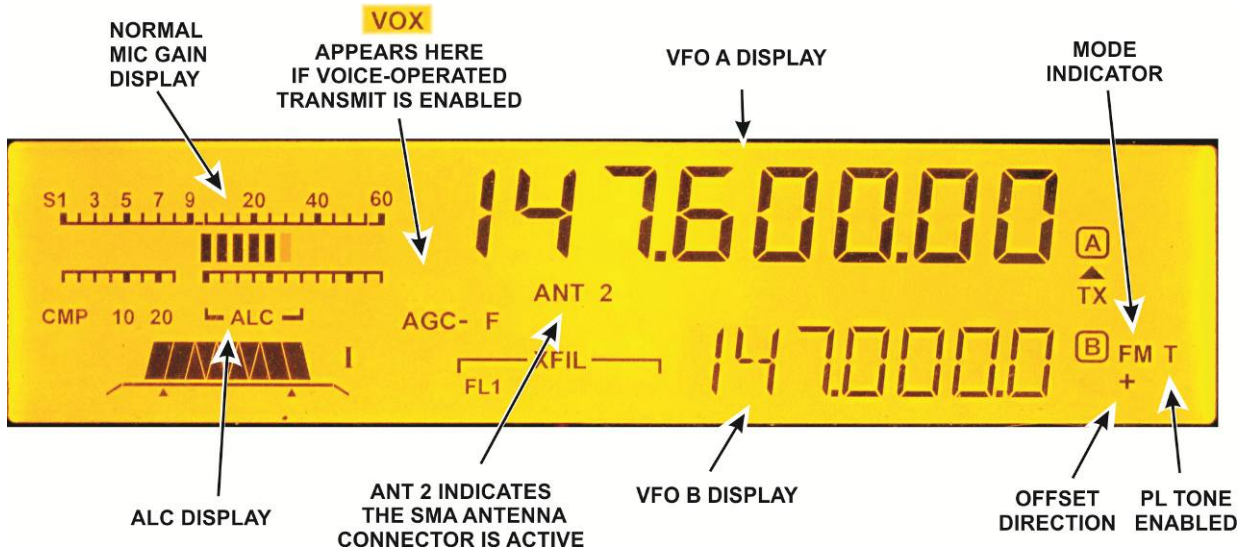

Figure 1. KX3 Display.
Connect your 2 or 4 meter antenna to the female SMA connector mounted on the KX3's right end plate. Note that when you select the 2 or 4 meter bands, ANT2 appears on the LCD indicating that the SMA connector is in use (see Figure 1 on page 5). The BNC connector is used only for the 160 through 6 meter bands.
Figure 1 shows the KX3 LCD identifying only those elements mentioned in this text. See your KX3 Owner's manual for a complete description of the display.
- **Set Microphone Gain Level:** Press the microphone PTT switch and, while speaking normally into the microphone, adjust the **KEYER/MIC** control for 5 or 6 bars indicated on the LCD ALC display as shown in Figure 1.
- **Weak or Distorted Audio in FM Mode:** Check for proper microphone gain level. Press the microphone PTT switch and, while speaking normally into the microphone, adjust the  **KEYER/MIC** control for 5 or 6 bars indicated on the LCD ALC display as shown in Figure 1. Check that your deviation matches the receiving station (or repeater). For optimum results the deviation used at the transmitting station must match the deviation expected by the receiving station. If the deviation is too low the audio may sound weak. If the deviation is too high, the audio may be broken up and distorted. See *Frequency Deviation* on page 6 if you need to adjust the deviation.
- **Unable to Access Repeaters:** If you are sure you are in a location where your signal should bring up the repeater, check to ensure you are using the correct PL tone, that the PL tone is enabled for transmit and that the offset and offset sign are correct (see *Repeater Operation* starting on page 6). Be sure the Offset shown on the display (see Figure 1 on page 5) is correct for the repeater.